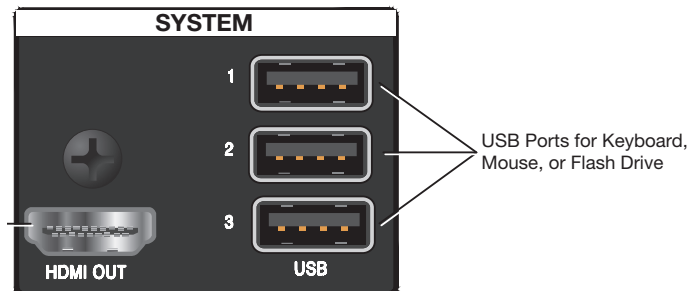

Figure 54. USB System Ports on the Rear Panel
2. Plug the flash drive into one of the System USB ports on the rear panel (see figure 54).